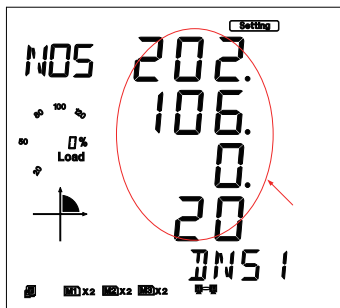

Fig 5-33
7. Set DNS Primary Server in the fifth setting page, such as 202.106.0.20. Press the "V/A" key to go to the setting page. Users may set the parameters pointed out in Figure 5-33. The cursor starts at the first digit. After setting the DNS Primary Server, press the "V/A" key to accept. Press the "P" key to go to the sixth setting page for DNS Secondary Server.